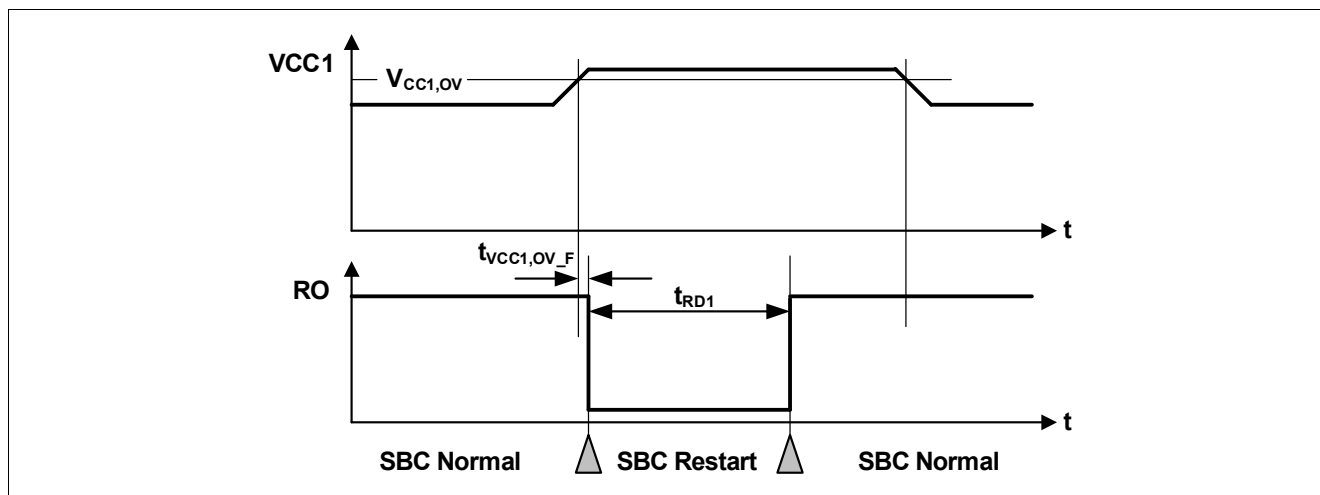

Figure 58 VCC1 Overvoltage Timing Diagram
- If the bit **VCC1_OV_RST** is set and **CFGF** = '1', then SBC Restart Mode is entered. The FOx outputs are activated. After the reset delay time (t_{RD1}), the SBC Restart Mode is left and SBC Normal Mode is resumed even if the VCC1 overvoltage event is still present (see also **Figure 58**). The **VCC1_OV_RST** bit is cleared automatically;